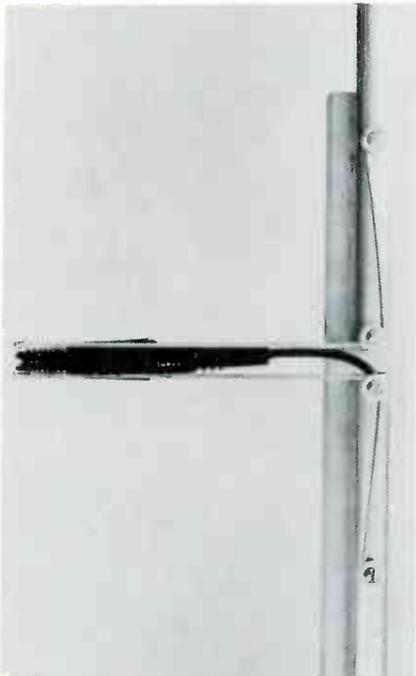

FIG. 8—CENTER OF THE extended double-Zepp antenna. Note the orientation of the balun transformer and phase reversal stub.
**Part 2** WHEN WE LEFT YOU last time, we were discussing the extended double-Zeppelin antenna. As mentioned then, the antenna is made of  $\frac{3}{4}$ -inch tubing, as shown in Fig. 8, which allows the feedline to be run down the center where it cannot affect the antenna's performance.
Mount the antenna and phasing stub near the top of the mast (see Fig. 8) with No. 10 machine screws and washers. Run the coaxial feedline, preferably RG-8/M, through the lower tubing before inserting the screws. The RG-58/U has higher losses, but will fit easily. (If you've chosen RG-8/U, either solid or foamed dielectric, there's will not be enough